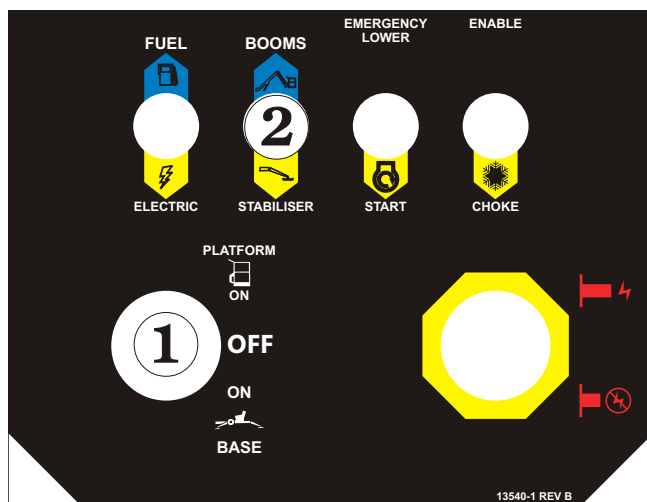

Figure 10.19 - Ground Switch Settings
1. Insert the key **1** into the **Platform / Ground Selector Switch** at the ground control box and select platform (see Figure 10.19).
2. Set the **Booms/Stabiliser Selector** ② to Booms (see Figure 10.19).